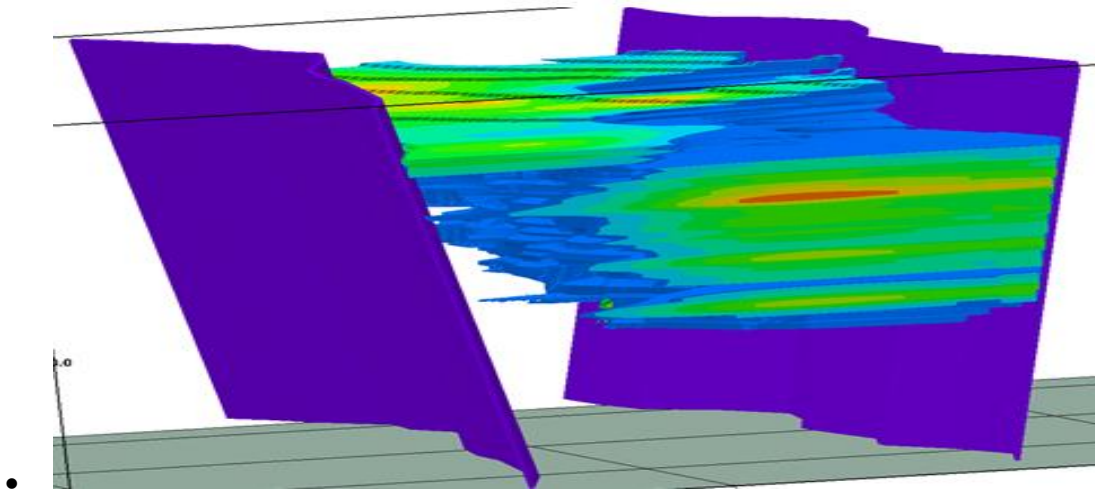

Figure 6. Fault-Constrained Geochemical Model
- **Faults:** If the contaminant is constrained by faults (Figure 6), we'll need the fault data (e.g., points along the fault(s) with dip information).